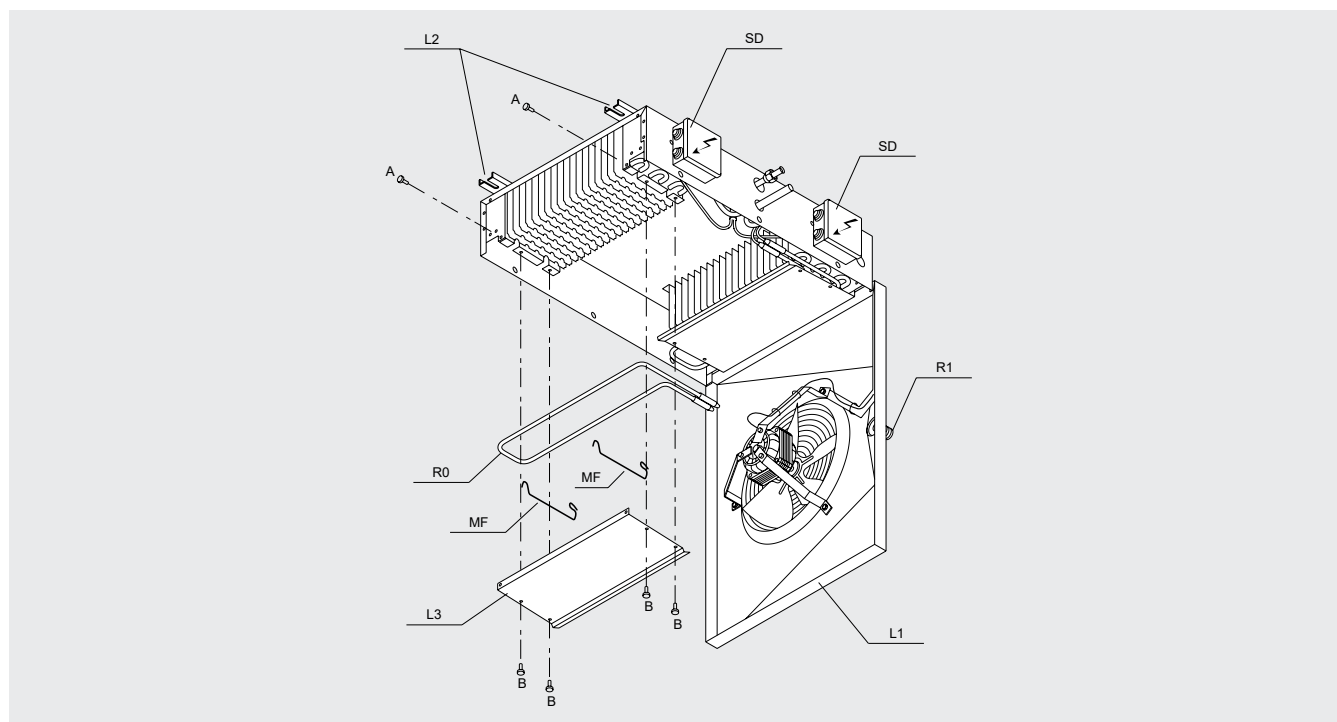

Figure 6
- 8.3 Bring fan shroud L1 to the position shown in "Figure 6".